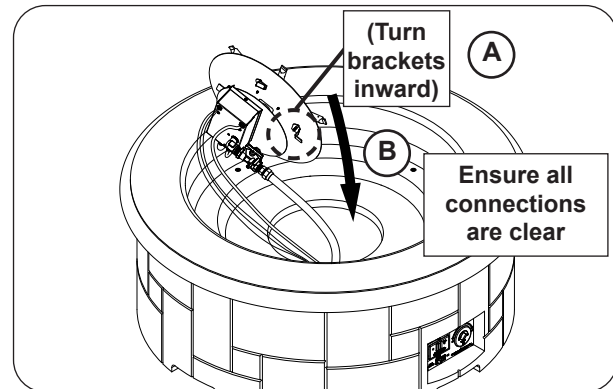

Fig. 32-2 Insert burner assembly
1. Ensure that the four burner brackets are turned inward, then insert the burner assembly (see Fig. 32-2, A-B).